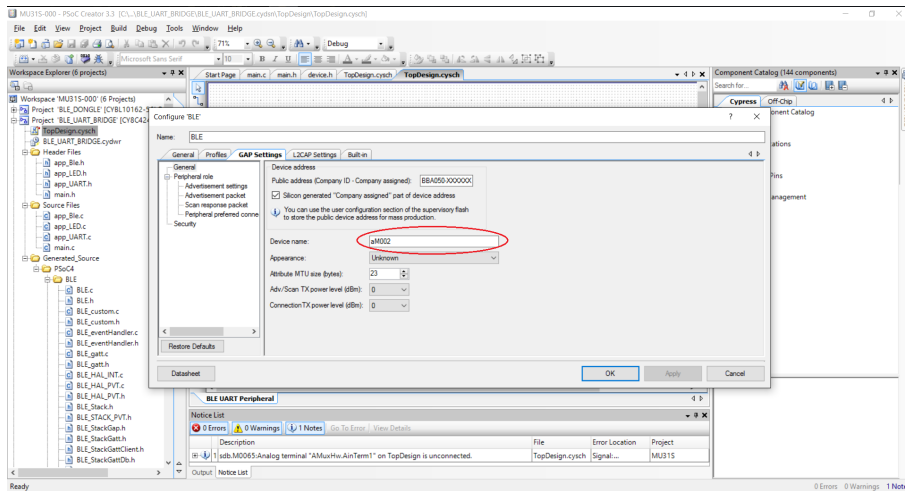

Figure 1.2: Setting the BLE device name
1. Modify the project to define aMussel ID. To do so, open TopDesign.cysch and double click on BLE module. Go to GAP Settings > General and enter aMussel ID in Device Name field (see Figure 1.2). Naming convention is as follows: 'aMXXX', where 'XXX' represents aMussel ID in range [000 – 999], e.g. 'aM001', 'aM023' ...